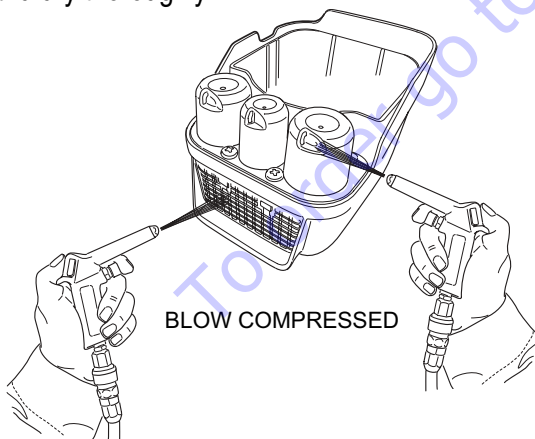

Figure 26. Engine Air Filter Cover
2. Blow compressed air through the air cleaner cover as shown in Figure 26. Clean inside of air filter cover with warm, soapy water or nonflammable solvent. Rinse and dry thoroughly.